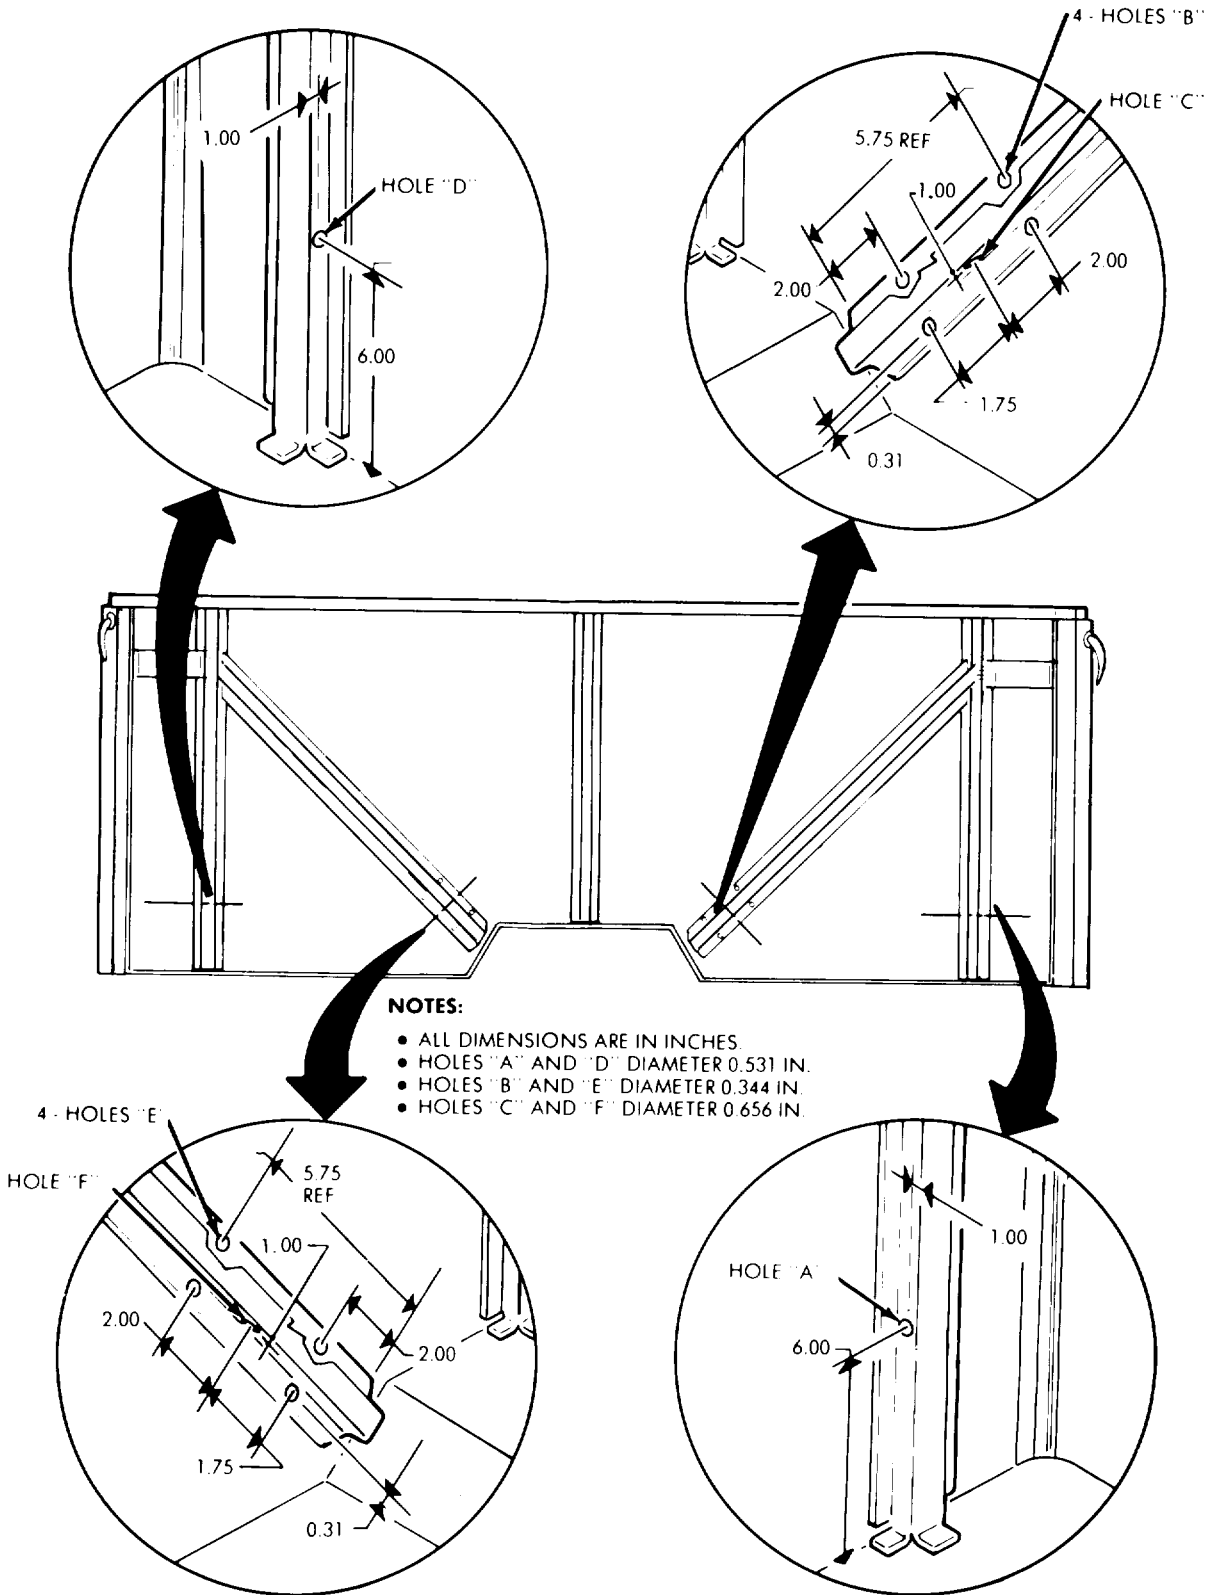

Figure B-1. Cab and Cab Channel Holes
- d. Locate, mark, and drill four 0.531-inch diameter holes in vertical cab channel members shown as holes "A" and "D" in figures B-1 and B-2.
- e. Locate, mark, and drill eight 0.344 -inch diameter holes in diagonal cab channel members in line shown as holes "B" and "E" in figures B-1 and B-2.
- f. Locate, mark, and drill four 0.656-inch diameter holes in diagonal cab channel members in line shown as holes "C" and "F" in figures B-1 and B-2.